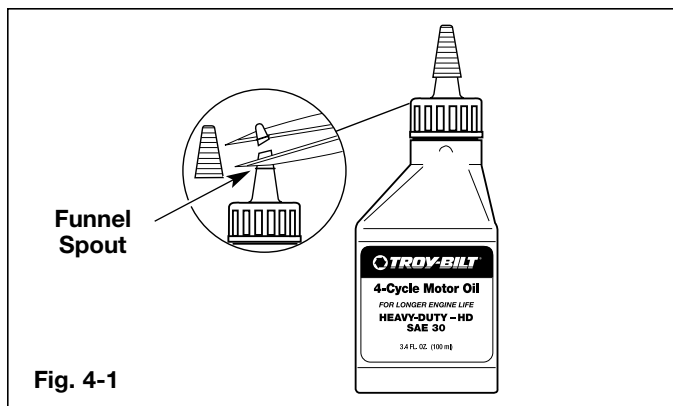

Fig. 4-1
Your unit is supplied with one 3.4 fluid oz. (100 ml.) bottle of SAE 30 SF, SG, SH oil (Fig. 4-1).
1. Unscrew the top of the bottle of oil and remove the paper seal covering the opening. Replace top. Cut the tip off the funnel spout (Fig. 4-1).